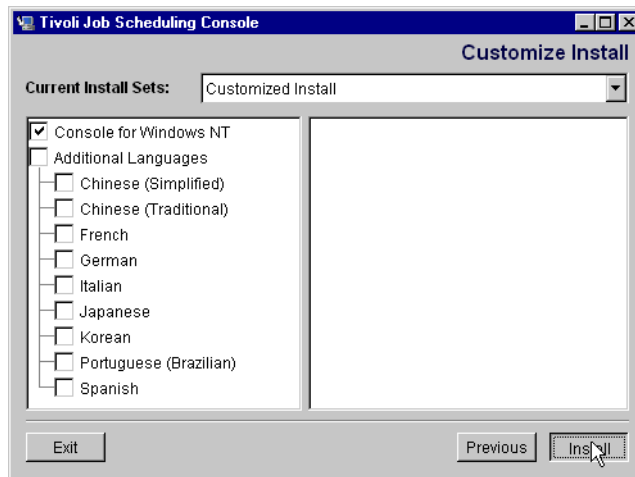

Figure 55. Select language
7. In the next window, shown in Figure 55 on page 75, you can select the languages you want to install.